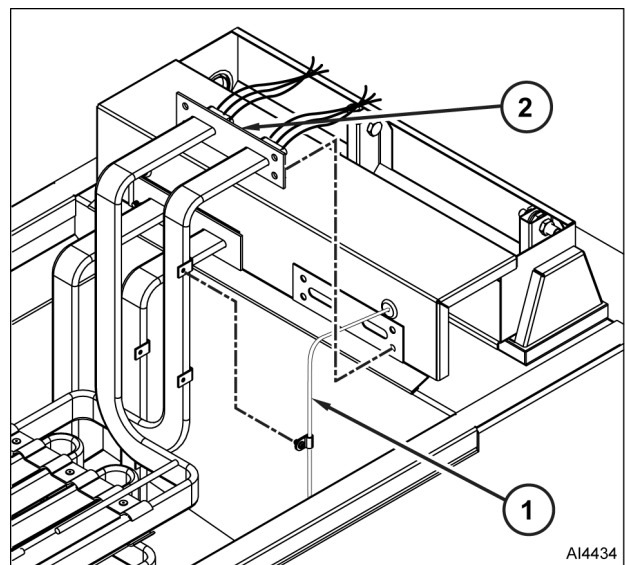

Fig. 14
- B. Move temperature probe / clamps (1, Fig. 14) away from element.
4. Disconnect heating element (2, Fig. 14) lead wires.